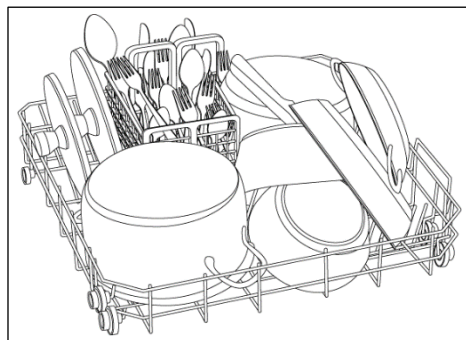

Figure 2
- The dishwasher is fitted with 3/4" threaded connector (fig. 2).
2. Then slowly release into the correct position (fig. 2).
Example of loading see. fig. 2 e 3
- For ease of cleaning, the central container is removable (fig. 2).